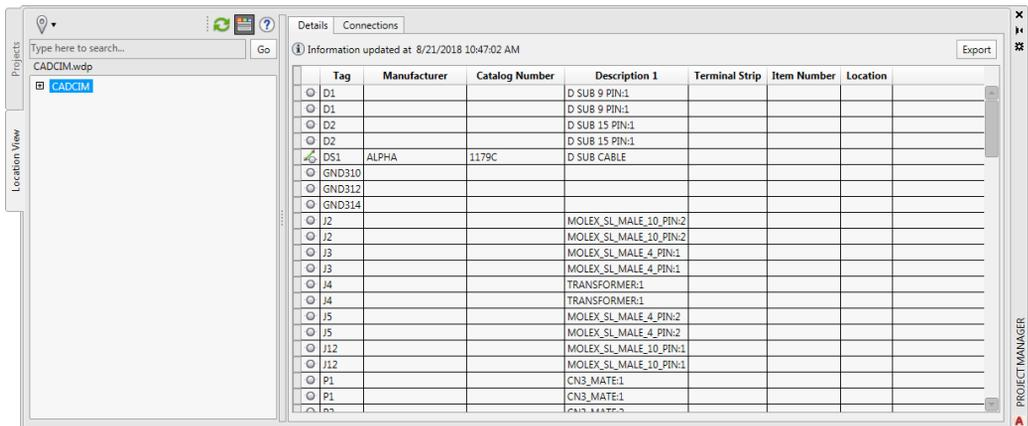

Figure 2-75 Expanded **PROJECT MANAGER**
1. Make sure the **CADCIM** project is activated. Choose the **Location View** tab from the **PROJECT MANAGER**. Next, choose the **CADCIM** node from the **PROJECT MANAGER**. Next, choose the **Display Details and Connections** button; the **PROJECT MANAGER** is expanded with the **Details** tab activated, as shown in Figure 2-75.